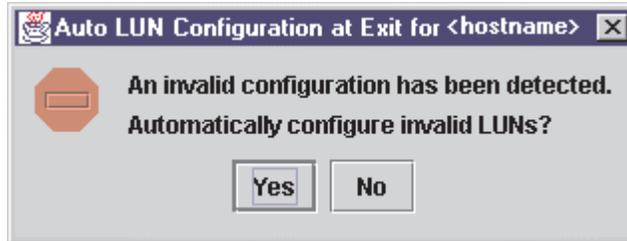

Figure 100. Auto LUN Configuration at Exit dialog window
4. Click **OK** to save the changes until you exit the Fibre Channel Port Configuration window; then, review the configuration changes (see Step 3). If FASiT MSJ detects an erroneous LUN configuration while saving the configuration, the Auto LUN Configuration at Exit for <hostname> window is displayed (see Figure 100 on page 224).